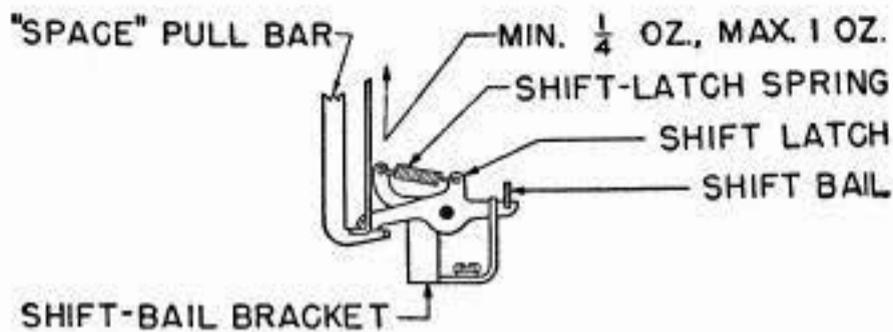

Fig. 35
2.54 **Shift-Latch Spring:** It should require a pull as indicated in Fig. 35 to start the shift latch moving with the main shaft in the stop position. **Fig. 35**